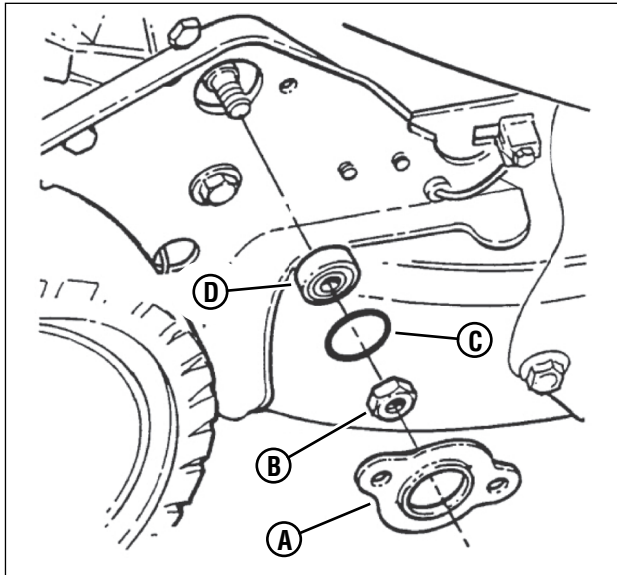

Figure 34: Replacing the hex shaft bearing
2. Remove the 3/8" hex lock nut (**B**, **Figure 34**), located on the outside of the right wheel bracket.